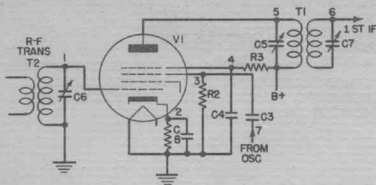

Figure 4.4 - 1st Detector Section
**4.4 1ST DETECTOR SECTION - Figure 4.4**